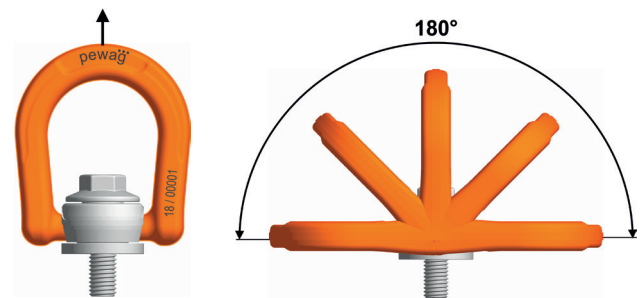

Fig. 1: Permitted directions of load that occur during correct use.
- The lifting point may only be loaded in the direction specified (fig. 1 in point 2 of this manual), at the maximum load capacity according to table 1 and in accordance with the conditions of use specified in point 2 this manual.
Load: The lifting point may only be loaded in the direction specified (fig. 1), at the maximum load capacity according to table 1 and in accordance with the conditions use specified in this manual.
- direction of pull is not within the indicated area (fig.1)